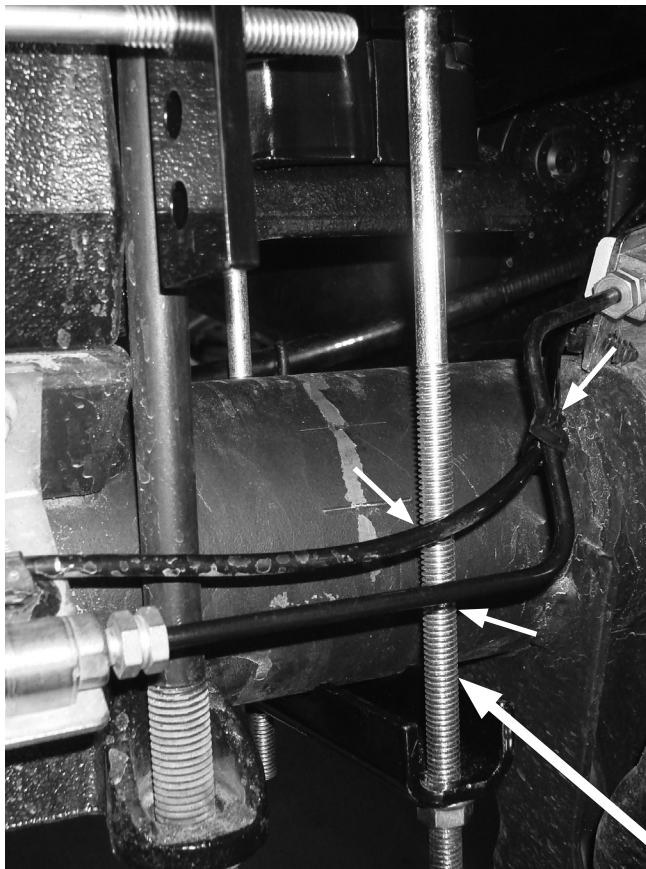
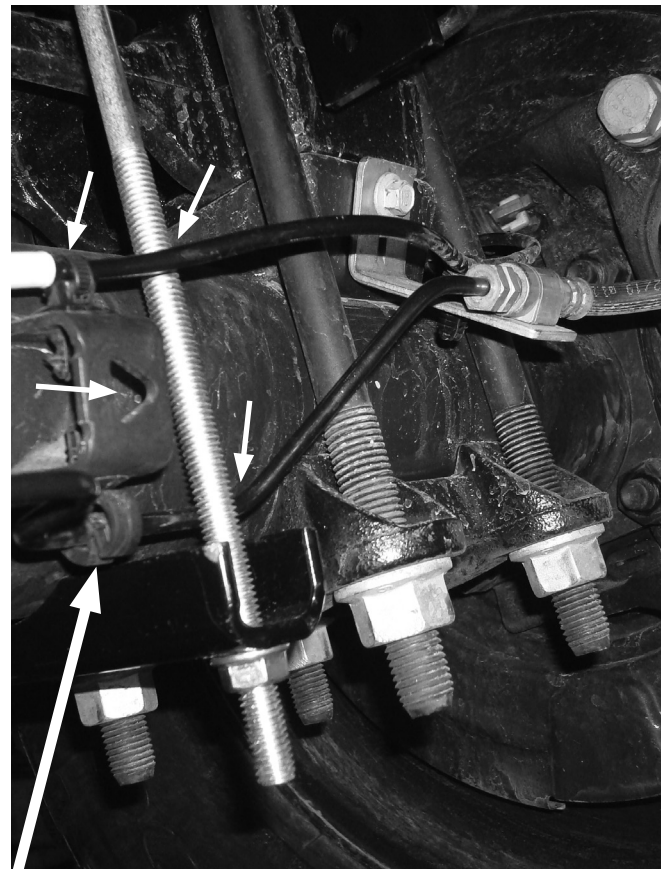

Fig. 22
Fig. 23
On the driver's (left) side, the long carriage bolt in the lower bracket main plate should be located between the hard brake line and axle (Fig. 22). On the passenger's (right) side, the carriage bolt should be located on the backside of the brake line (Fig. 23).
8. Once the lower brackets are secured, make sure that the brake and ABS lines are not rubbing against the lower bracket carriage bolt. It may be necessary to pull or push the hard brake line away and tie off the ABS line to gain clearance. Note: on the passenger's (right) side, it may be necessary to pull the ABS tree mount out of the top of the bracket. Re-attach by installing the tree mount to the back hole on the bracket and tie off with a zip tie if necessary (Figs. 22 & 23).
PUSH THE HARD BRAKE LINE AWAY FROM THE LOWER BRACKET CARRIAGE BOLT IF THE LINE IS RESTING ON IT (FIG. 22 & FIG. 23).